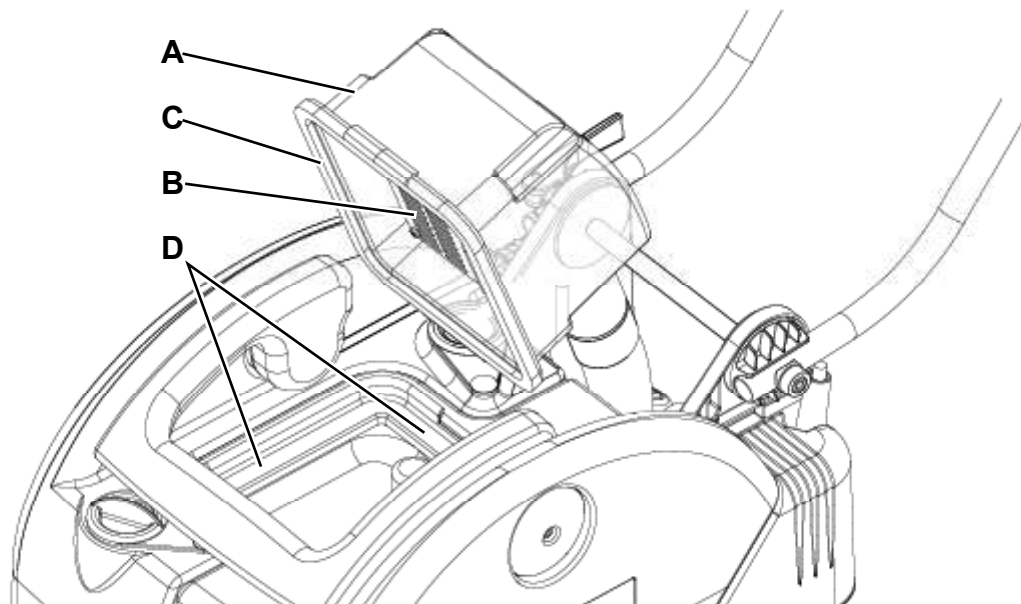

Figure 4
2. Make sure that the power supply cable (10) is disconnected from the electrical mains.
3. Open the transparent cover (A, Fig. 4) and clean it carefully.